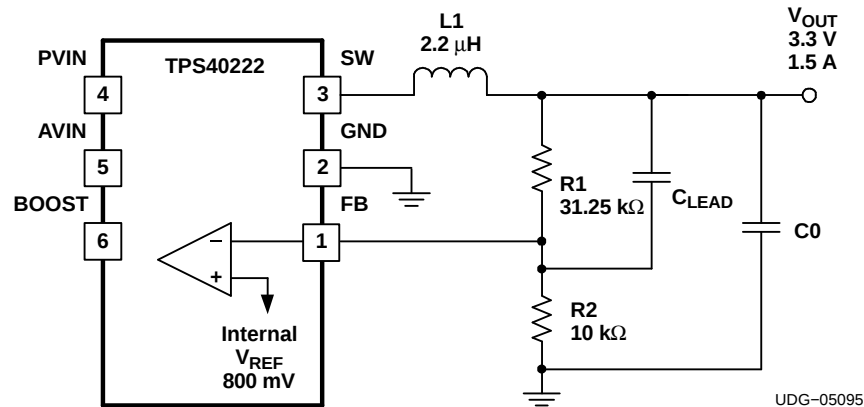

Figure 10. Output Stage
Since the loop compensation is internally fixed and cannot be changed, loop stability can only be controlled by the proper choice of output inductance and capacitance. Table 2 provides a shortcut guide to this selection and recommended capacitance to maintain a safe 50 degrees of phase margin for various inductors and output voltages. The table also shows the minimum capacitance for 50 degrees of phase margin at three temperatures, with the worst case for stability at -40°C. The granularity of the table is sufficient so the user can interpolate between values to find a specific operating condition. The table values assume a full load, which is also the worst case for phase compensation. As an example of using the table, consider a 2.5-V output converter with a 2.2-μH inductor. The table shows that a minimum of 15-μF of output capacitance is required to guarantee greater than 50 degree of phase margin at the worst case temperature of -40°C. With a lead capacitor (CLEAD) added to the feedback as shown in Figure 10, this minimum capacitance increases to 26-μF and the closed-loop frequency increases by about 20%.
(1) See Figure 10.
(2) For  $V_{OUT} > 3.3\text{ V}$  use an inductor with a value greater than or equal to 2.2  $\mu$ H.
In most applications, the user starts with a known output voltage and current load requirement as shown in Figure 10.
As shown in Figure 10, the trimmed reference voltage is internally connected to the error amplifier. Since the input bias current to this error amplifier is negligible. The feedback resistors R1 and R2 can be selected over a broad range limited by the low bias current into the error amplifier. With this restriction in mind, R2 was selected at 10 kΩ, so its current is 80 μA and large relative to the bias current of the error amplifier. The output voltage is then given by Equation 4.